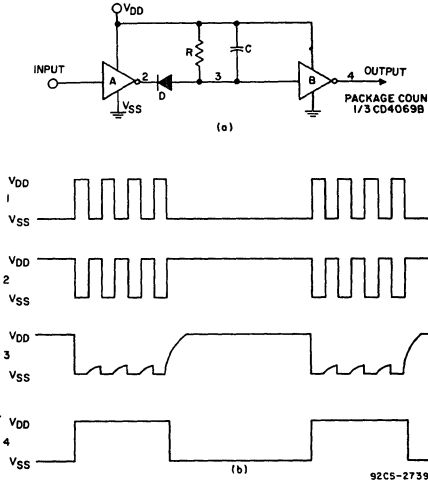

Fig. 25 - (a) Demodulator circuit, (b) waveforms.
Modulation or envelope detection of pulse-modulation waves is performed by the circuit shown in Fig. 25(a). The carrier burst is inverted (by inverter A); its first negative transition at point 2 turns on the diode (D) to provide a charging path for C through the n-channel resistance to ground. On the positive transition of the signal (at point 2), the diode is cut off and C discharges through R. The discharge time constant (RC) is much greater than the time of the burst signal period. Point 3, therefore, never reaches the switch point of inverter B until the burst has ended. The waveforms for 4 points in the circuit are shown in Fig. 25(b).